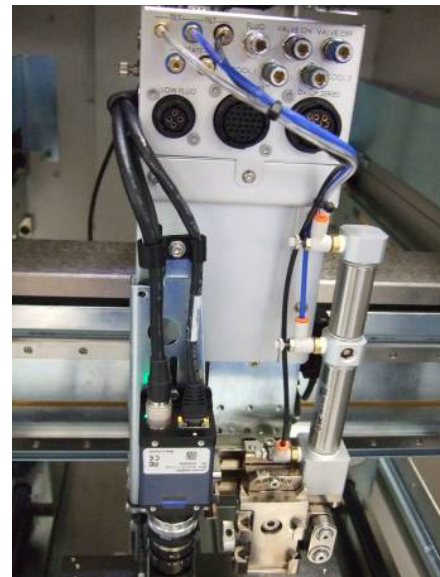

Figure 3-2 Tilt Bracket (Right/Left)
3. Install the tilt mechanism using a 4 mm Hex wrench (Figure 3-2).
4. Connect pneumatic lines (Figure 3-2).